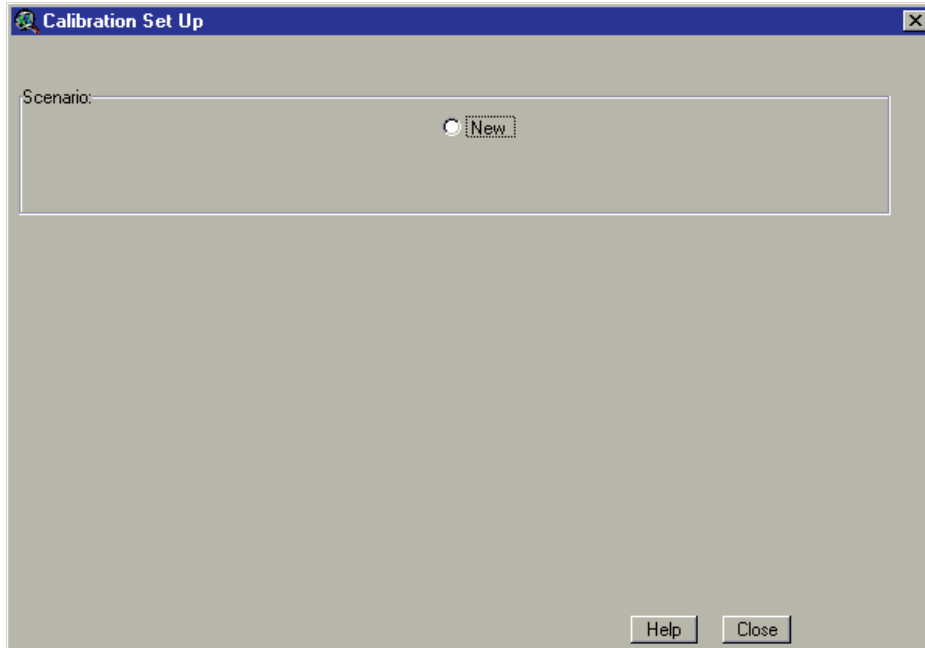

Figure 13.36
- The Calibration Set Up dialog box is displayed (Figure 13.36).